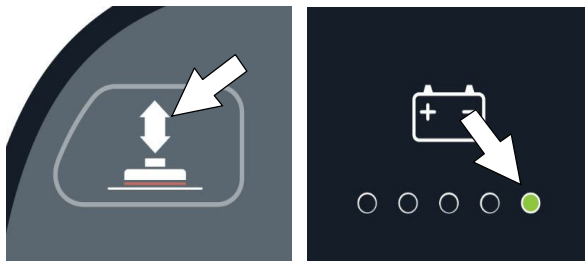

FIG. 160
1. Park the machine on a level surface and turn the key to off (O) position.
2. Press and hold the brush pressure button while turning the key on. Release button when the far right battery discharge indicator LED turns on (Figure 160).